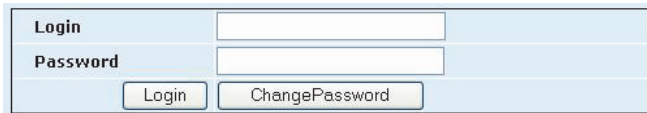

Figure 11: Login screen
4. The ATS Remote Annunciator login page should appear. Enter the default Login (admin) and Password (ASCO) from the label (see page 2) and click **Login**. See Figure 11.